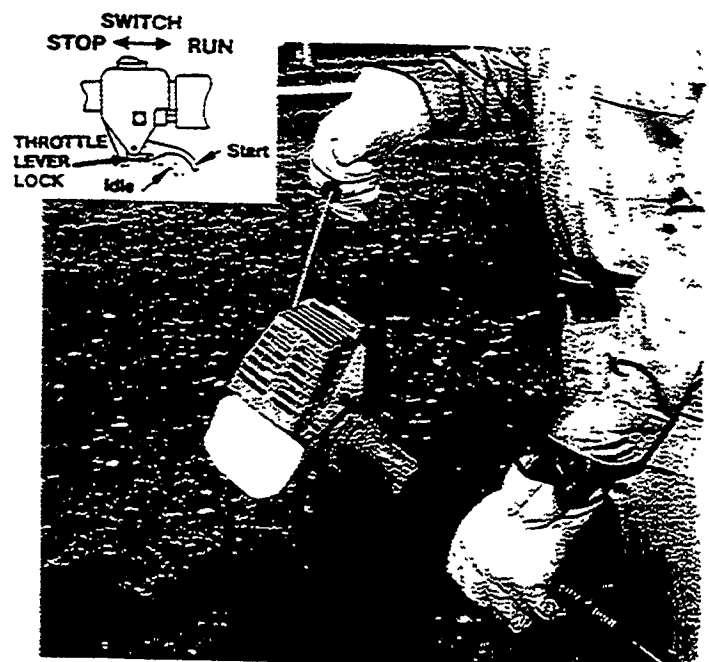

Figure 6
- Lock throttle lever in the start position as shown in (Figure 6).
- Pull starter rope slowly, until engine compression is felt (Figure 6). Pull the starter in short rapid strokes until engine starts.